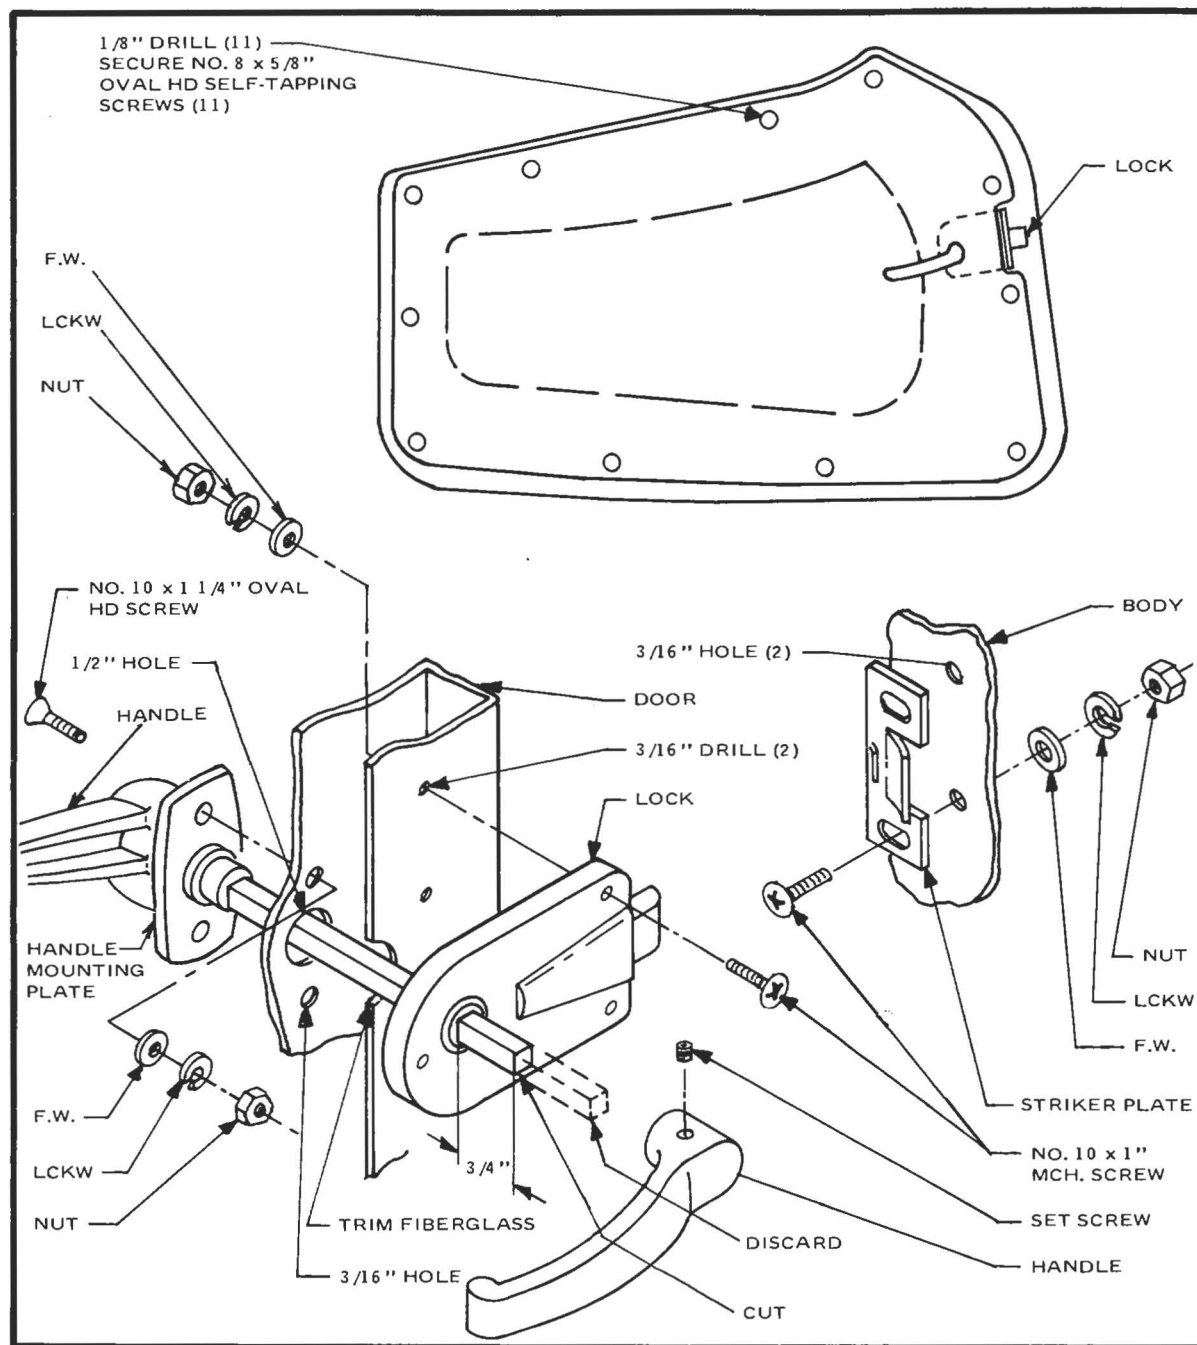

Figure 57
- ☐ Refer to Figure 57. Temporarily hold upholstery in place and mark location of lock cut out. With door closed, hold lock in position with spring latch con-